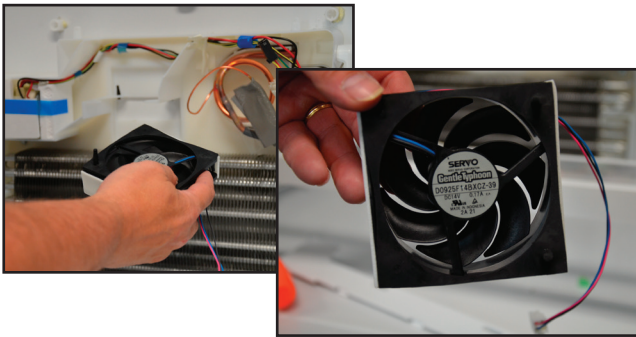

FIGURE 30
7. Separate the fan motor from the housing. There are 4 rubber isolators that secure the motor to the housing. Remove the fan motor. See *Figure 30*.